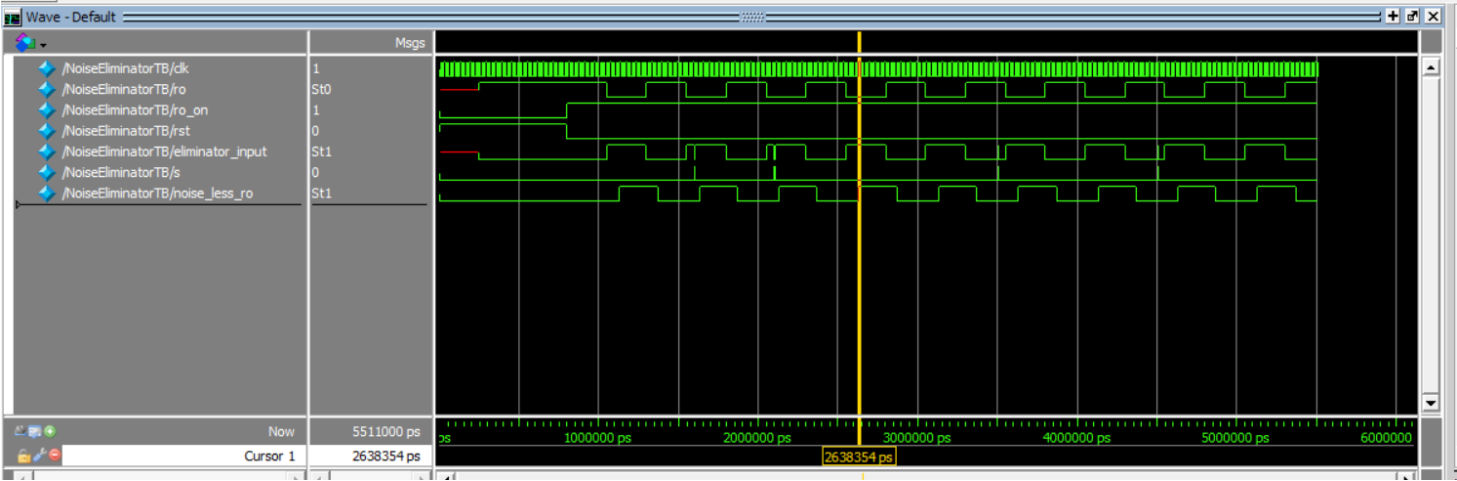

Fig. 7 Noise Eliminator waveform
A. As you can see in figure 7, noise eliminator works correctly.